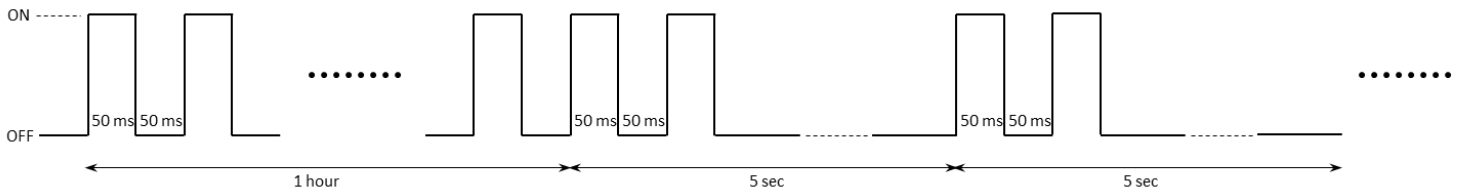

Figure 2-8: The GREEN LED Pattern During Join
4. Both **GREEN** and **RED** are turned off when the POST and the subsequent LED flashing specified in item 3 end.
- a. **GREEN** is toggled ON and OFF every 50 ms for the first hour. After that, it only flashes twice (ON time: 50 ms, OFF time: 50 ms) every 5 sec. This scheme has been shown in Figure 2-8.